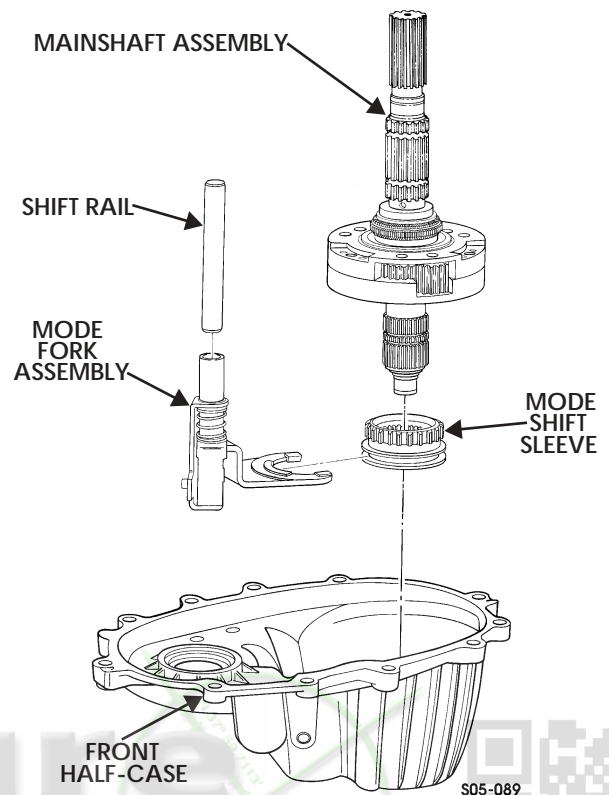

Figure 5-142: Mainshaft Assembly
30. Remove shift rail from mode fork assembly (Figure 5-142).